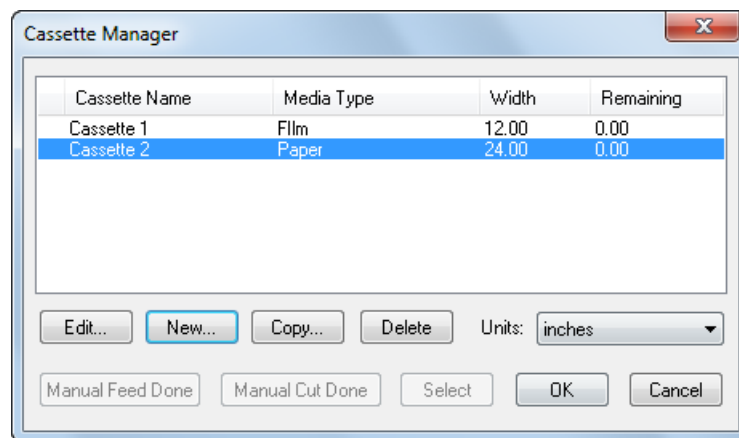

Figure 9.4 Cassette Manager dialog box
Before processing any jobs, you need to tell the RIP about the cassettes you are using and give details of the media currently in each cassette. You do this from the Cassette Manager dialog box. Click the **Cassette Manager** button in the Edit Page Setup dialog box or choose **Output > Cassette Manager** to open the Cassette Manager dialog box, as shown in Figure 9.4.
- If you perform a manual operation by using controls on the output device, you must inform the RIP. Display the Cassette Manager and click the button **Manual Cut Done** or **Manual Feed Done** whenever you perform the corresponding manual operation. See Figure 9.4, page 252, and the following description of the buttons.